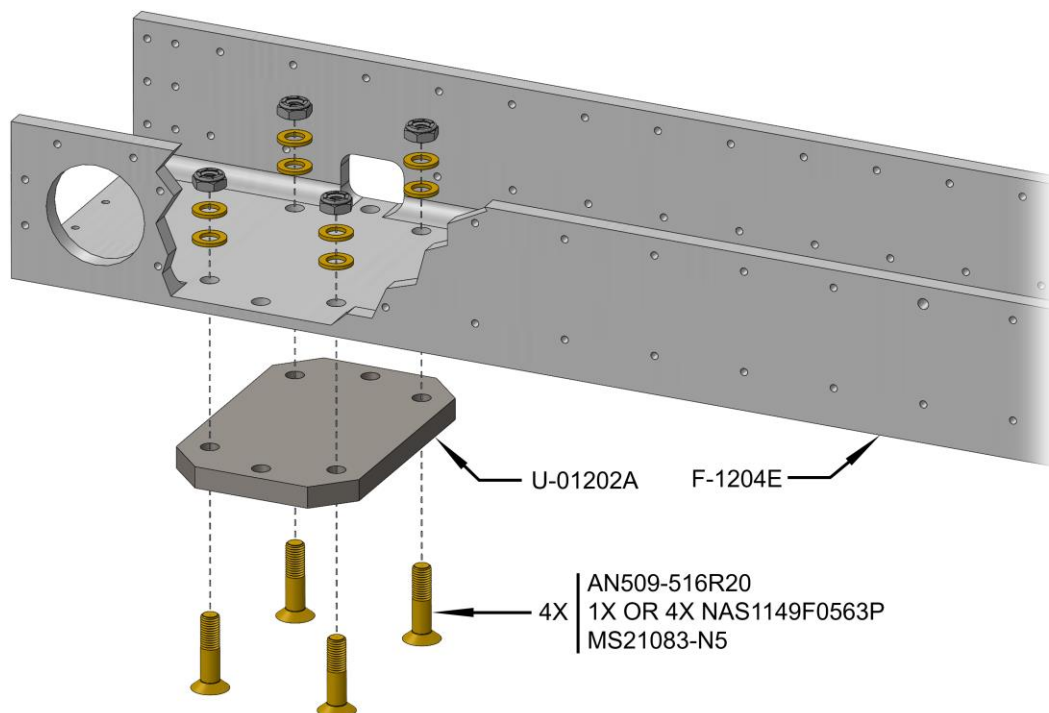

FIGURE 9: U-1202A INSTALLATION
Step 43: Shave or sand the heads of the rivets on the F-1204A and F-1204D bulkheads immediately aft and forward of the location where the U-01202A Outboard Wear Plate will be installed (Refer to Figure 9), immediately underneath the F-1204E Landing Gear Beam.
Step 44: Attach each U-01202A Outboard Wear Plate to the underside of the F-1204E Landing Gear Beam as shown in Figure 9.